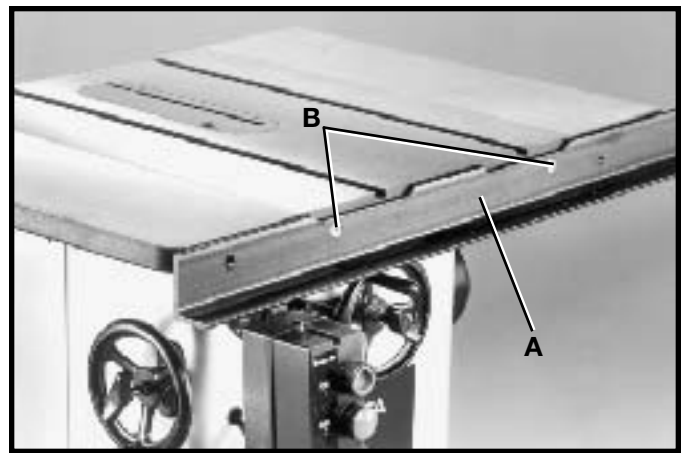

Fig. 11
1. Assemble the front rail (A) Fig. 11, to front of saw table using the two 3/8-16 x 1-1/4 long flat head Phillips screws (B), 7/8 flat washers, lockwashers and 3/8-16 hex nuts supplied. Screws (B) are inserted through the two holes in the front rail, as shown and through the two through holes in the front of the saw table and fastened to the table with the flat washers, lockwashers and hex nuts. **IMPORTANT: Do not completely tighten front rail mounting hardware at this time.**